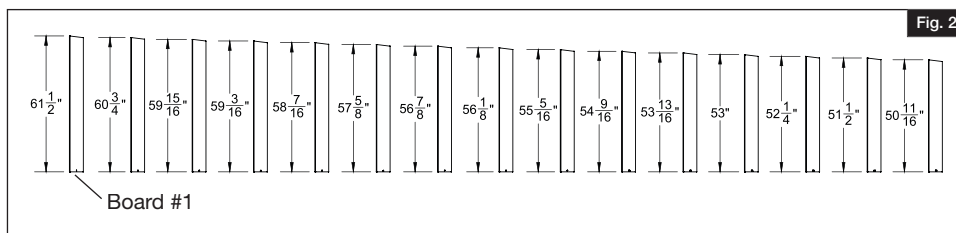

Fig. 2
4. Lay out and number all infill boards from left to right with board #1 being the longest (Fig. 2).